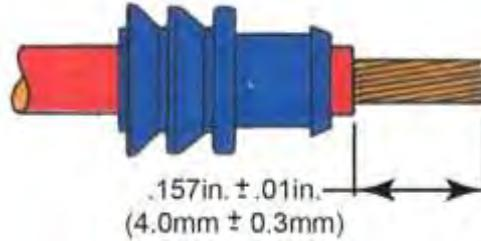

Figure 74
- Using wire strippers, strip insulation from wire to obtain the strip length of 0.157in. ± 0.01 in. (4.0mm ± 0.3 mm) as shown in Figure 74.